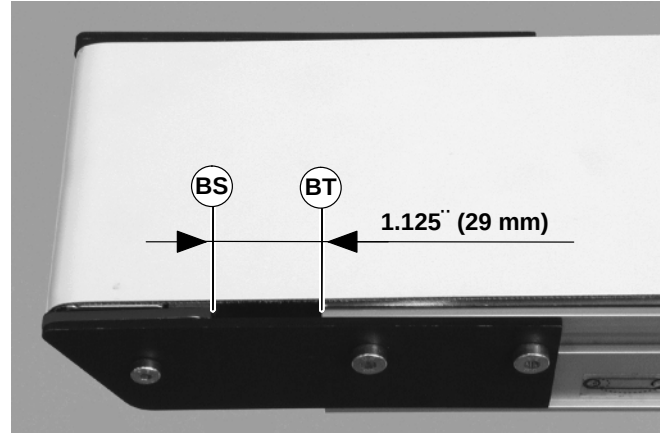

Figure 40
2. Adjust head plate assembly so the edge of the axle support plate (BS of Figure 40) is separated from the end of the conveyor (BT) by 1.125" (29 mm). Tighten fastening screws (U of Figure 39) on both sides of conveyor to 60 in-lb (7 Nm).